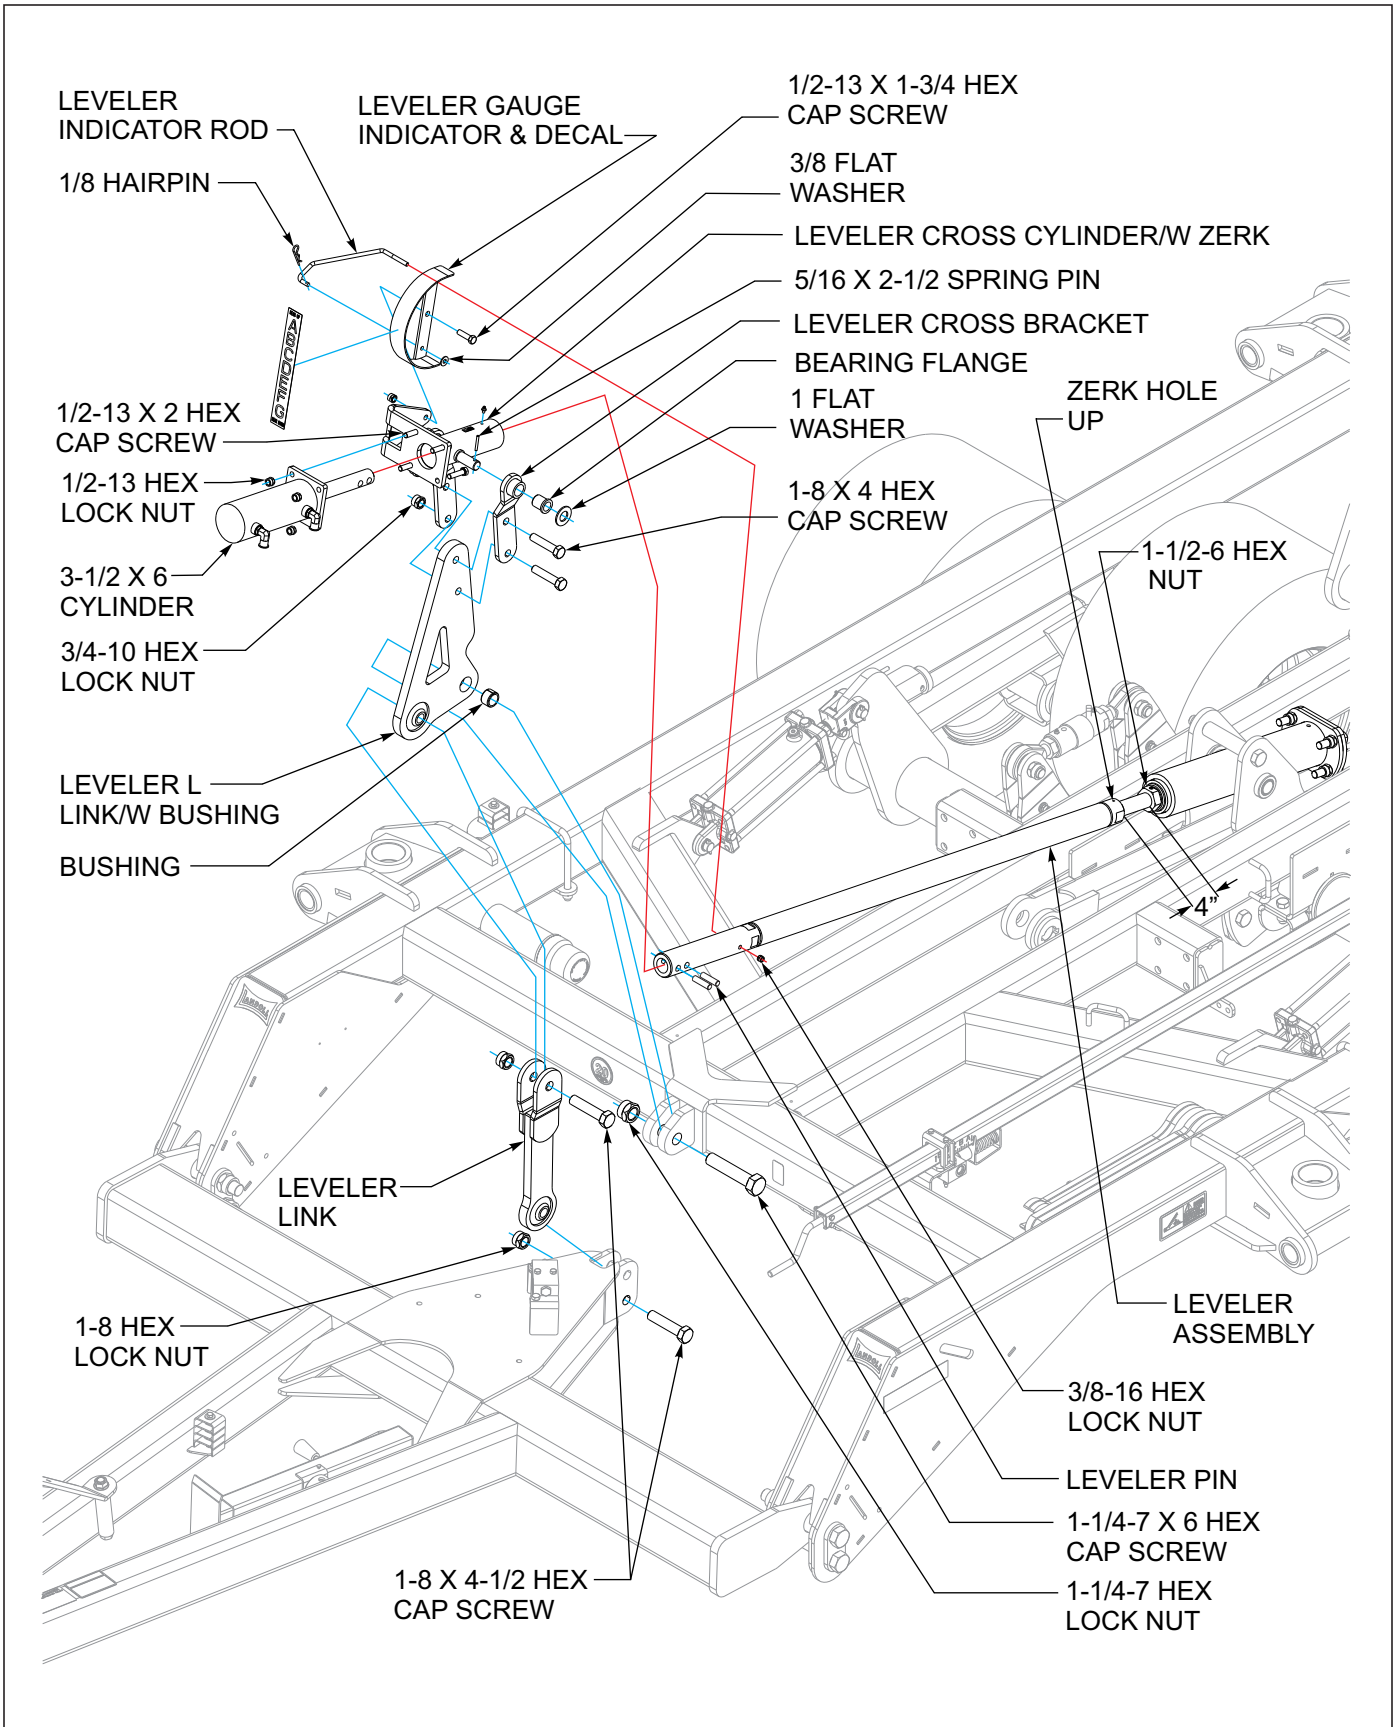

Figure 3-4: Leveler Assembly Installation
1. Be sure bushing is in the leveler L link (**See Figure 3-4.**)
5. Slide leveler cross cylinder/w zerk over front end of leveler assembly until 2 holes are through plate (**See Figure 3-4.**) Slide 3-1/2 x 6 cylinder onto front end of leveler assembly until the 2 holes in cylinder are aligned with 2 holes in leveler and slide the leveler pins through aligned holes. Slide leveler cross cylinder assembly back though until plates on two cylinders are aligned and secure with 1/2-13 x 2 hex cap screws and 1/2-13 hex lock nuts.
9. Attach level indicator as shown (**See Figure 3-4.**)